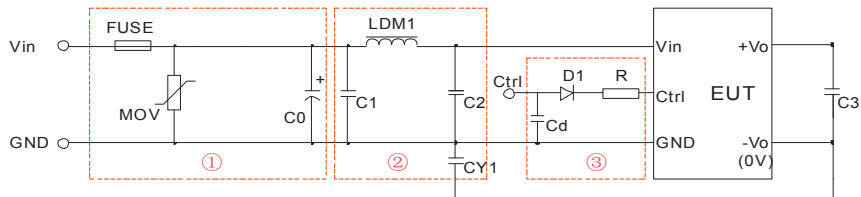

Fig. 3
RE	CISPR32/EN55032 CLASS B (see Fig. 3-② for recommended circuit)
- ① For EMC tests we use Part ① in Fig. 3 for immunity and part ② for emissions test. Selecting based on needs.
- ② V_C is the voltage of the Ctrl end relative to the GND of the input grounding; V_D is the positive-going conduction pressure drop of D1; I_C is the current flows into the Ctrl end and its value is generally 5-10mA, see Fig. 3-③ for the peripheral circuit of Ctrl end;
- ③ If there is no recommended parameters, no external component is required.